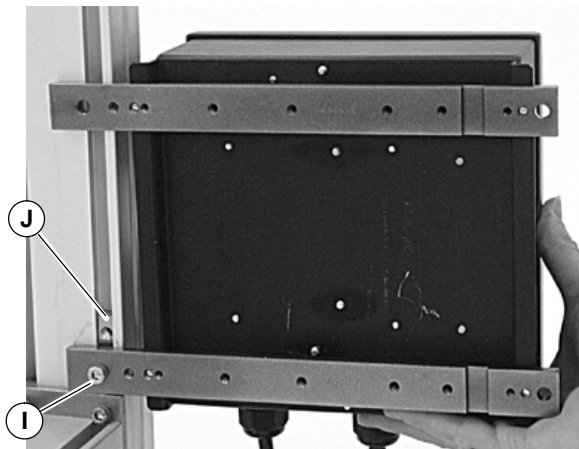

Figure 15
3. Temporarily tighten screw (I). Install second T-bar (J of Figure 15) into T-slot.